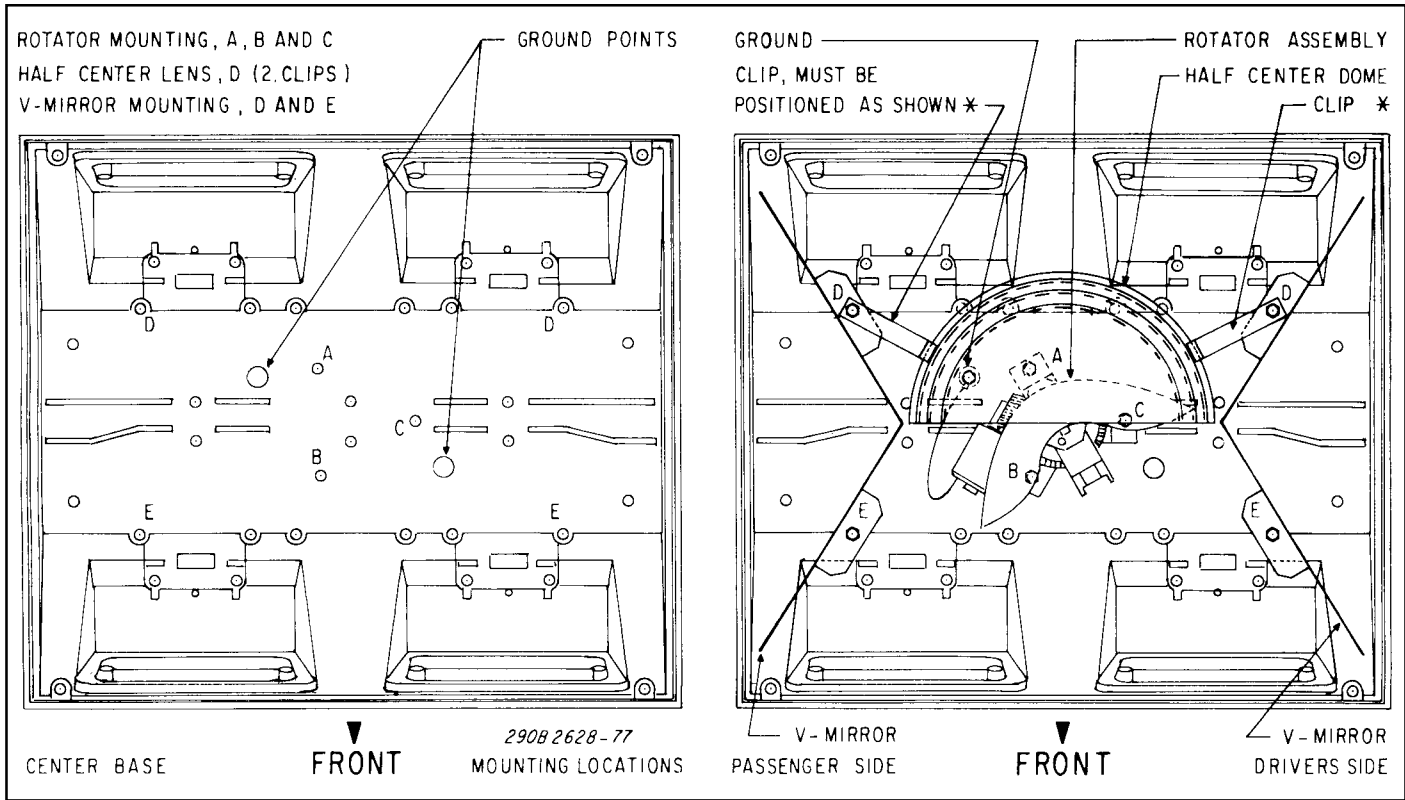

Figure 2.
1. See figure 2. Place the half-center dome over the rotator in the center section. Ensure that the rotator's reflector is free to rotate inside the half-center dome. Also, ensure that wires are not pinched between the half-center dome and the lightbar center section base.